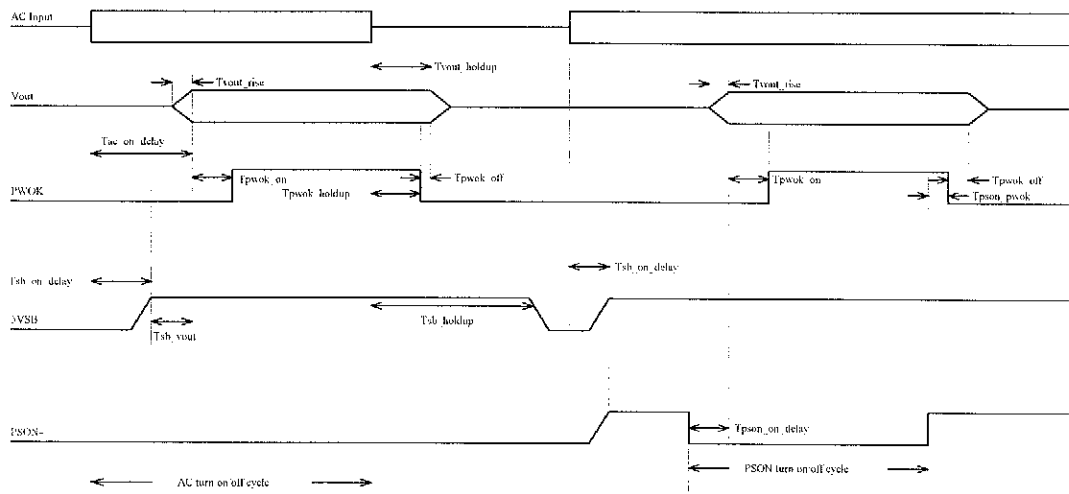

Fig.1
5.1 Power on (see fig.1)
5.3 Power off sequence (see fig. 1)
6.1 Power good signal (see fig. 1)